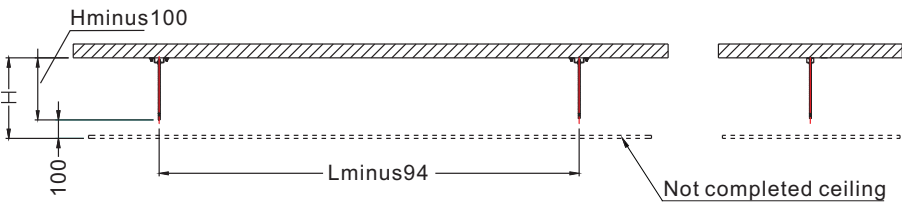

Figure28
- 1)Install the hanging bracket at a required position before ceiling fitment (M12 bar is not provided) (figure 28).